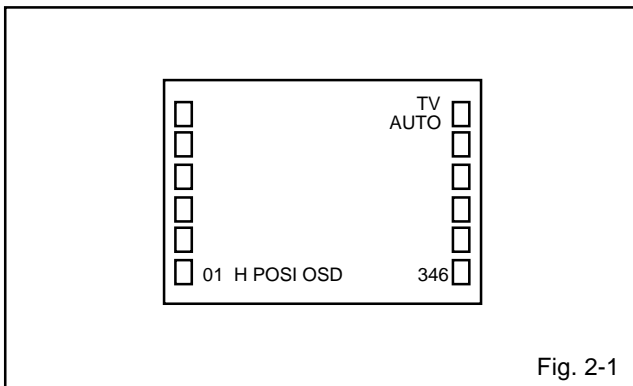

Fig. 2-1
2. Press the VOL. DOWN button on the set and the channel button (**9**) on the remote control for more than 2 seconds to display adjustment mode on the screen as shown in **Fig. 2-1**.